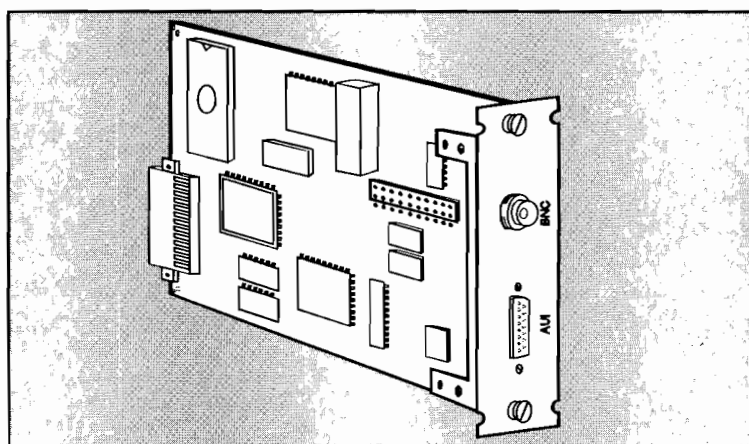

Figure 3-1. Identifying the Ethernet Adapter Card
1. Get the adapter card. The part number for the Ethernet adapter card is C2059B. Refer to Figure 3-1.